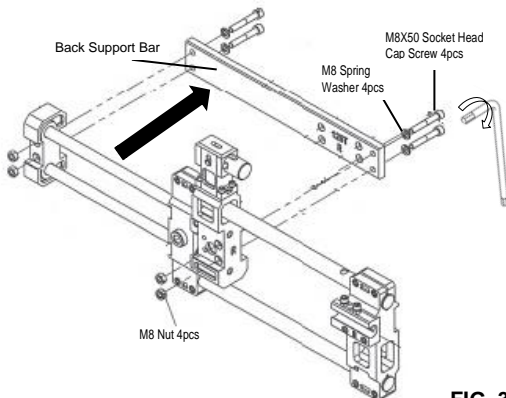

FIG .3
3. Loosen & remove 4 pcs of fasteners M8x50 and detach the Back Support Bar from the Retractable Kit. Safe Keep the fastener for step 6 (See fig.3)